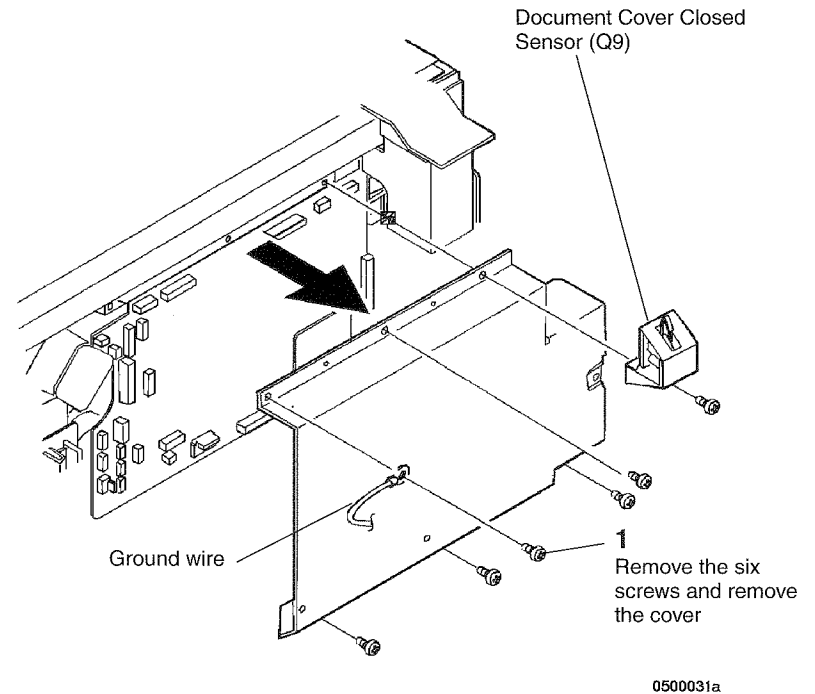

Figure 2 Removing the PWB Cover
3. ( Figure 2): Remove the PWB Cover.